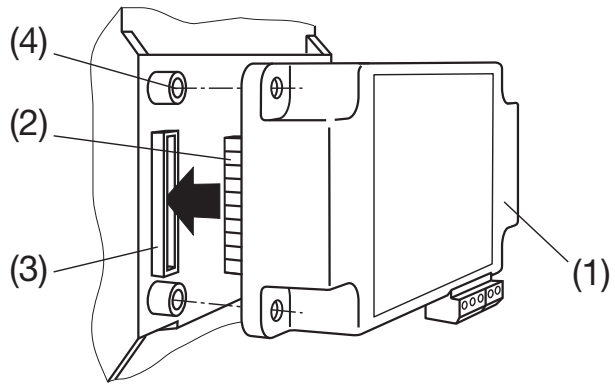

Fig. 1
Simply plug-in the extension module (1) at the back of the basic instrument (fig. 1). Please ensure that the plug (2) and socket (3) are aligned correctly.